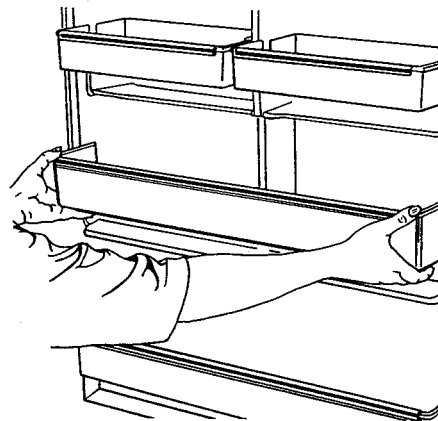

Figure 26.
- Then pull out to remove. See Figure 26.